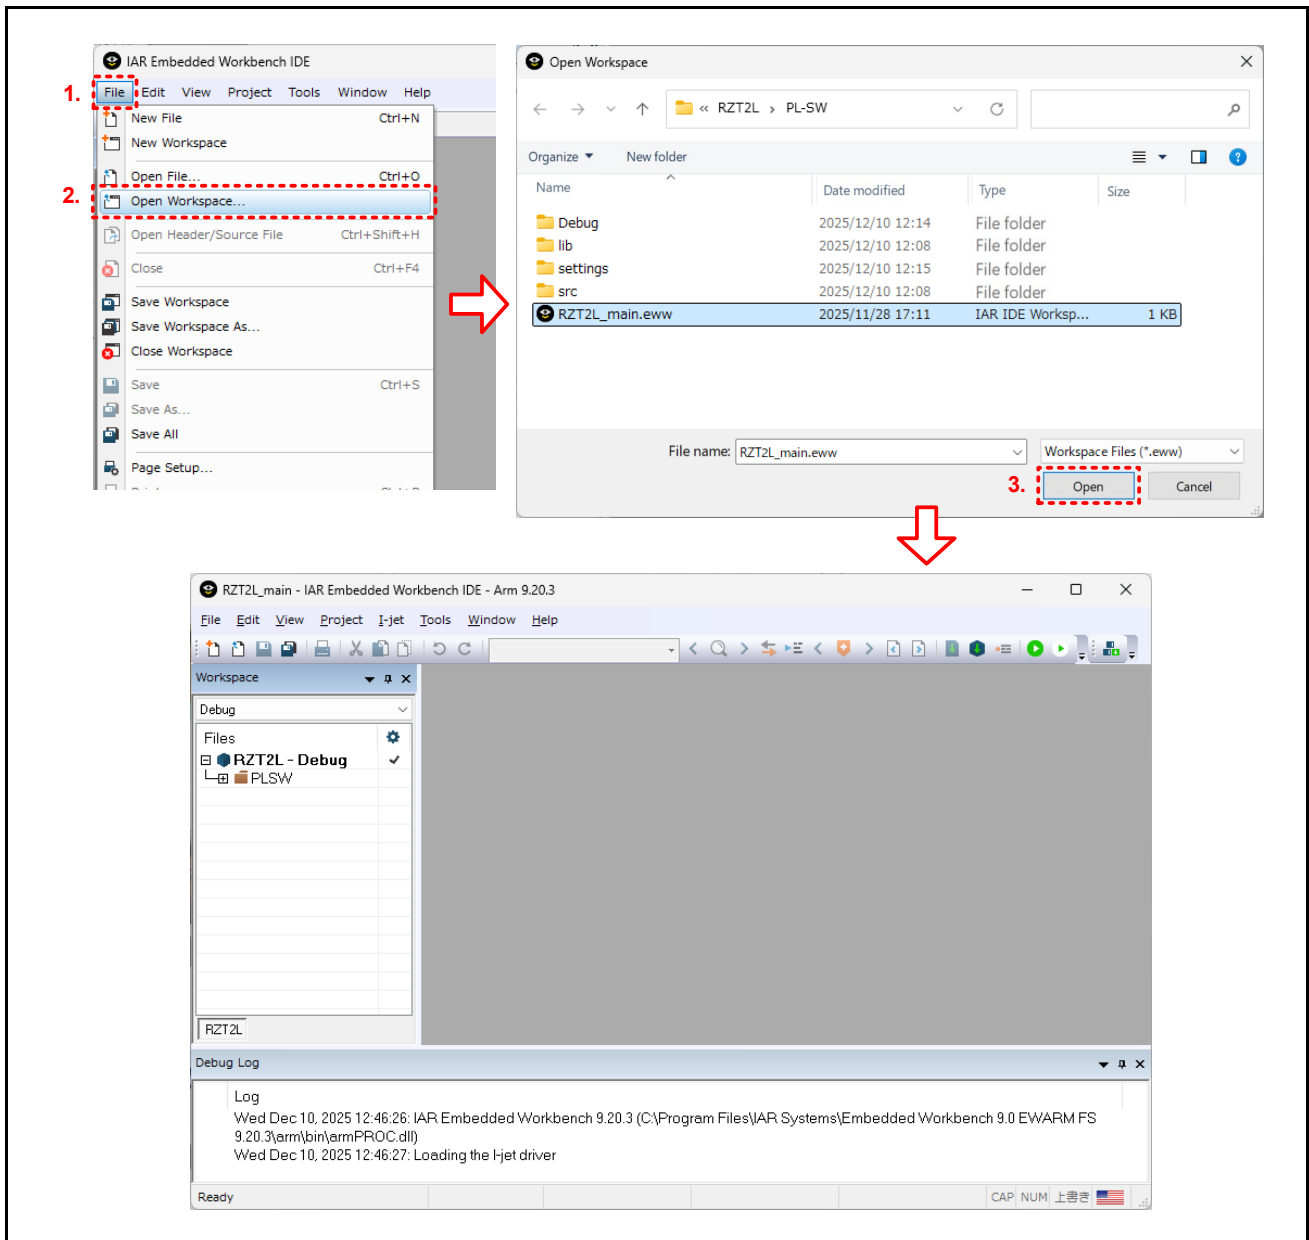

Figure 5.1 Opening Workspace
- 2) On the [File] menu, select [Open Workspace]. (Figure 5.1, #1 #2)
- 3) Specify the workspace files in the PL-SW folder (RZT2L_main.eww / RZT2L_sub.eww). (Figure 5.1, #3)